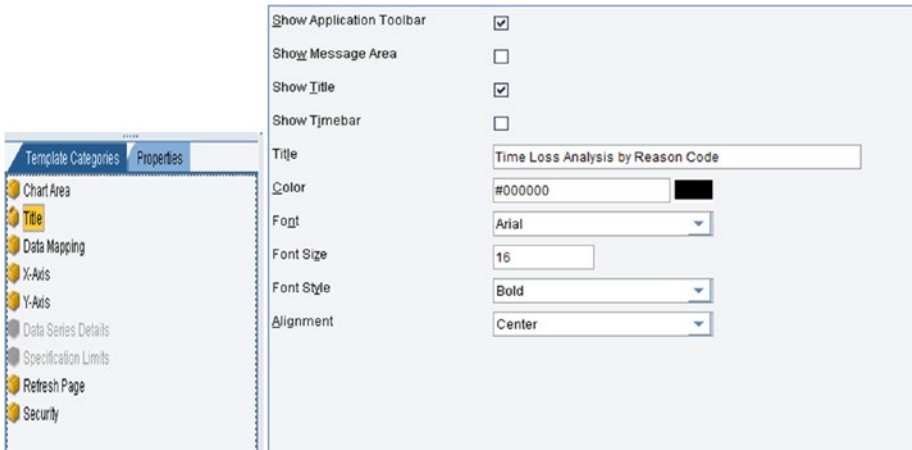

Figure 7-40. *i5Chart title configuration*
- *i5Chart Title*: This sets the title, color, font, and other properties for i5Charts. See Figure 7-40.